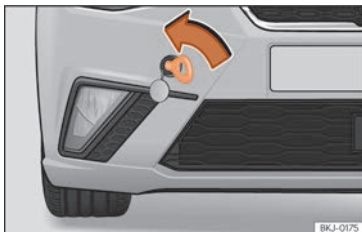

Fig. 100 Right side of the front bumper: towline anchorage screwed in.
- Bolt the anchorage to its limit to the left, in the direction of the arrow » **Fig. 100**.